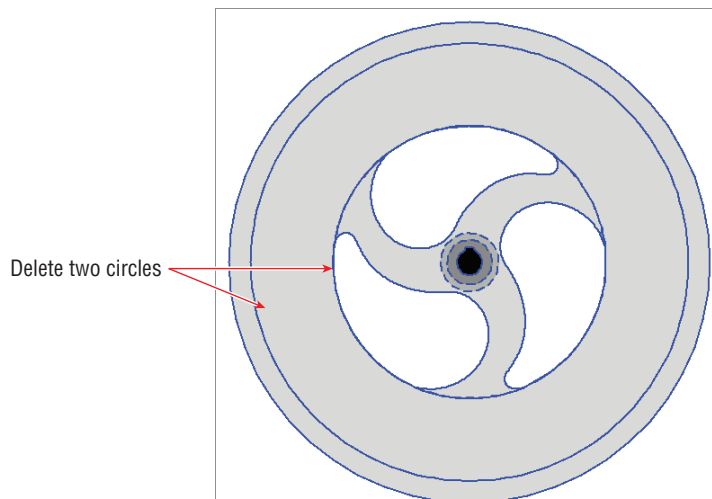

FIGURE 8.11 Deleting the re-created boundary objects
12. Click the Erase tool on the Modify panel, select the two re-created boundaries as shown in Figure 8.11, and press Enter.